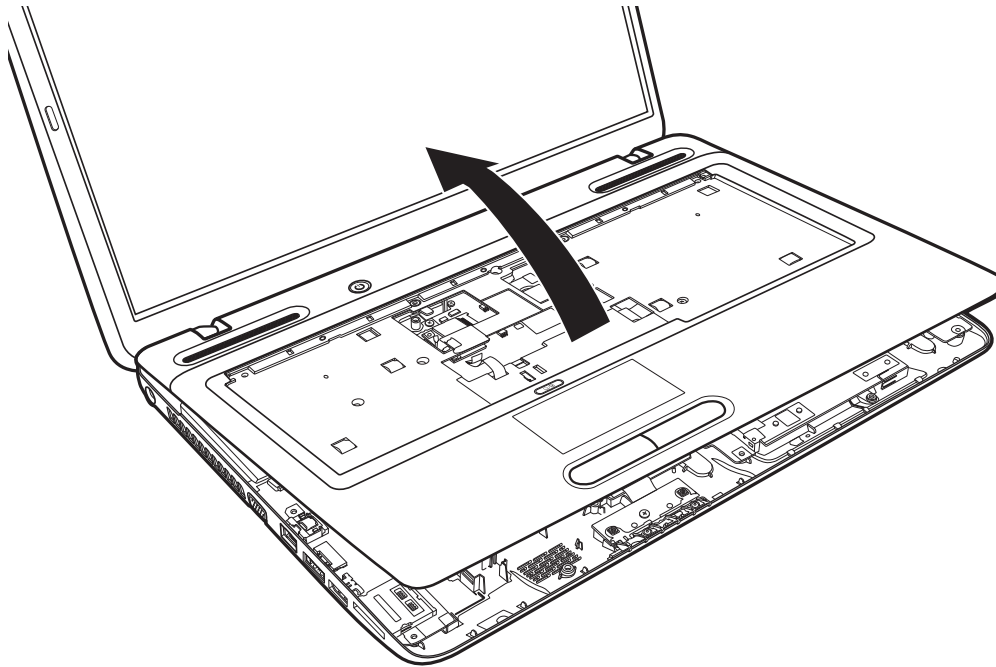

Figure 4.15 Removing the logic upper assembly from the laptop
5. Grab the edge of the opening in the middle of the logic upper assembly and pull up to remove it from the laptop as shown in Figure 4.15.